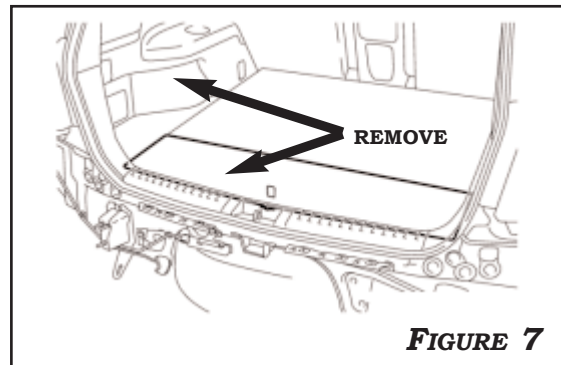

FIGURE 7
7. REMOVE THE DECK BOARD ASSEMBLY. REMOVE LEFT CARGO COMPARTMENTS AND PANELS. **FIGURE 7**